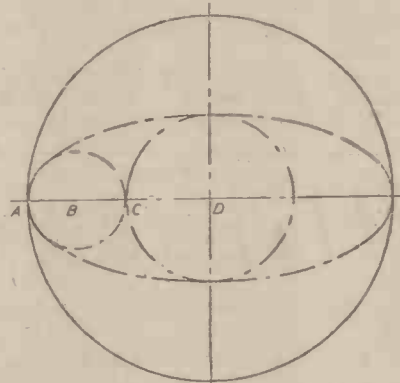

Fig. 5.—Diagram for setting of instrument.
2.—Pencil Leg.—Subtract CD (see Fig. 5), half the length of the minor axis from AD, half the length of the major axis. Set the